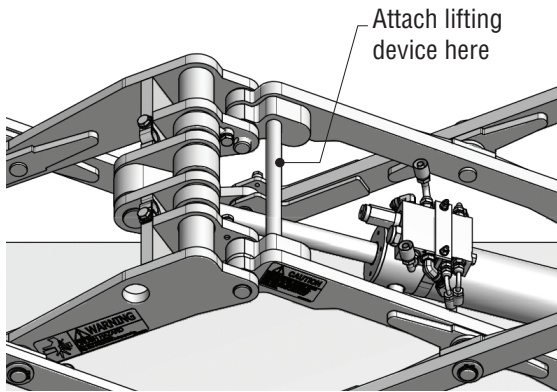

Figure 6-2, Lifting Point
2. Support the mechanism assembly through the upper bar on the inner secondary arm, near its center of gravity. Figure 6-2